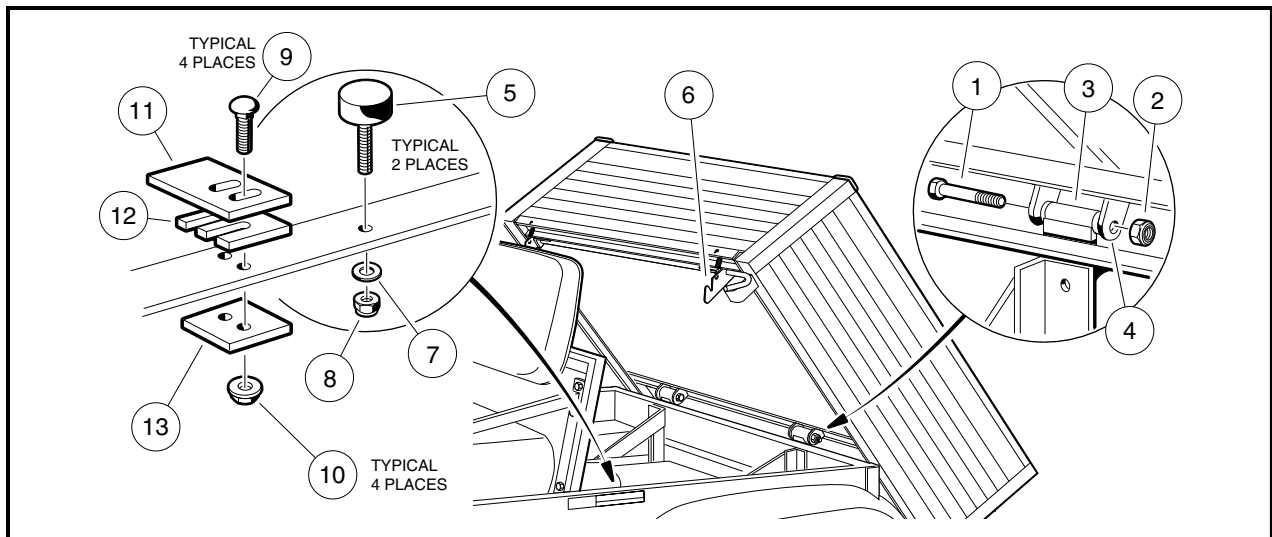

Figure 4-6 Carryall 472 Cargo Bed
- 2.1. Remove two 3/8-16 nylon lock nuts (2) from left and right cargo bed hinge/bolt assemblies (**Figure 4-6, Page 4-11**).
- 2.1. Hold front of bed lower than rear of bed and place front edge of bed onto vehicle frame and align bed latches (6) with latch plates (11) (**Figure 4-6, Page 4-11**).
- 2.1. Adjust the two bed stop bumpers (5) by loosening the 1/4-20 nylon lock nuts (7) and washers (6) and position so that when the cargo bed is lowered, both bumpers are centered on the bed frame weldments (**Figure 4-6, Page 4-11**).